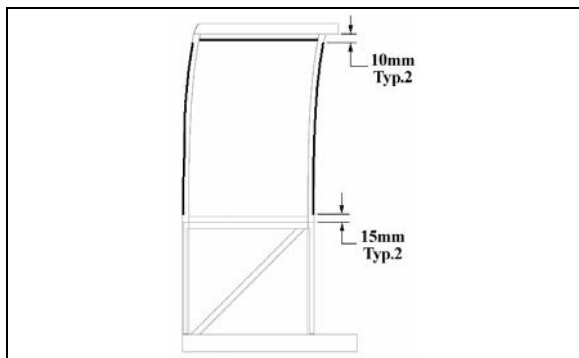

FIGURE 56 : SIDE WINDOW – ¼ X ½ DOUBLE FACE ADHESIVE TAPE INSTALLATION
3. Apply ¼" X ½" double face self adhesive tape on the slide-out structure for side fixed window (see FIGURE 56) [10mm≈3/8" ] [15mm≈19/32" ];